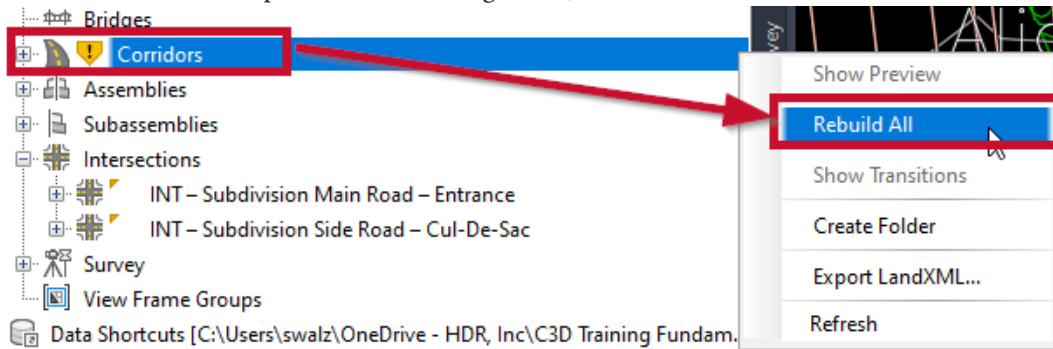

Figure 3.9 – Rebuild corridors (all corridors)
9. Once our intersection has been updated, we'll next want to move up to our Corridor Model Civil 3D object classification in **TOOLSPACE** | **Prospector**, right-click or **Corridors**, and select the **Rebuild All** option, as shown in *Figure 3.9*).